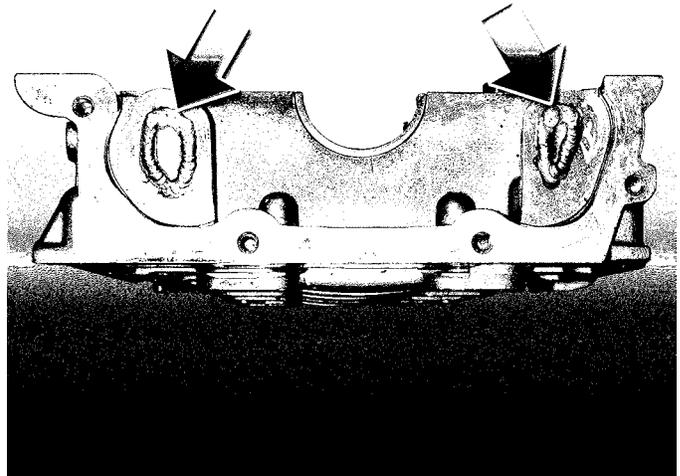

Figure 11
- The oil supply passages in the front of the main girdle are welded shut on the dry sump engines (Fig. 11).